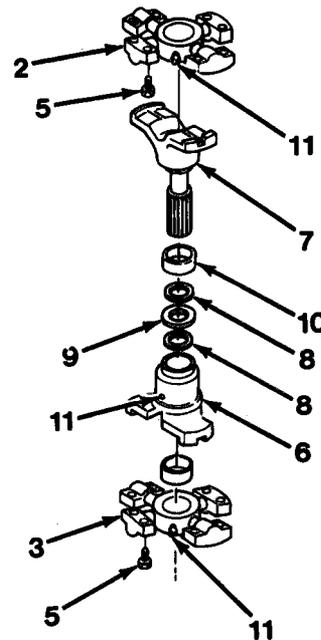

Figure 12-2
1. Install three grease fittings (11, Figure 12-2).
2. Install dust cap (10) on stub yoke (7).
3. Install split washer (8), felt washer (9) and split washer (8) on stub yoke (7).
4. Install stub yoke (7) into slip yoke assembly (6).
5. Tighten dust cap (10).
6. Install rear spider bearing assembly (3) and four capscrews (5).
7. Install all front spider bearing assembly (2) and four capscrews (5).
8. Torque eight capscrews (5) to 50 lb-ft (68 N•m).